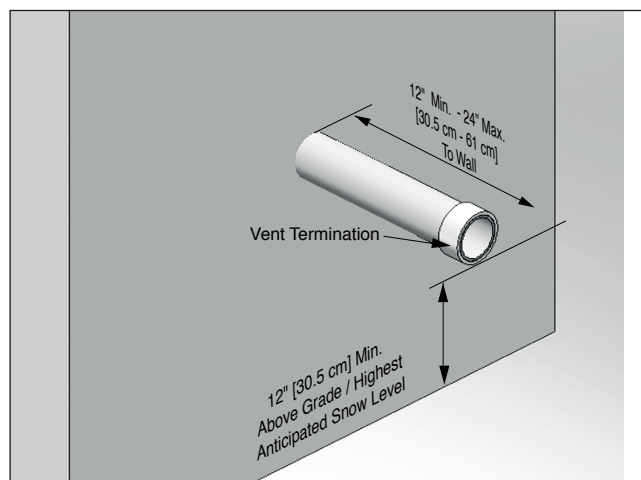

Fig. 18 - Category IV - Sidewall Termination of Vent Pipe
- Using a coupling as shown in *Fig. 18*.
- Using a coupling as shown in *Fig. 18* on page 27.